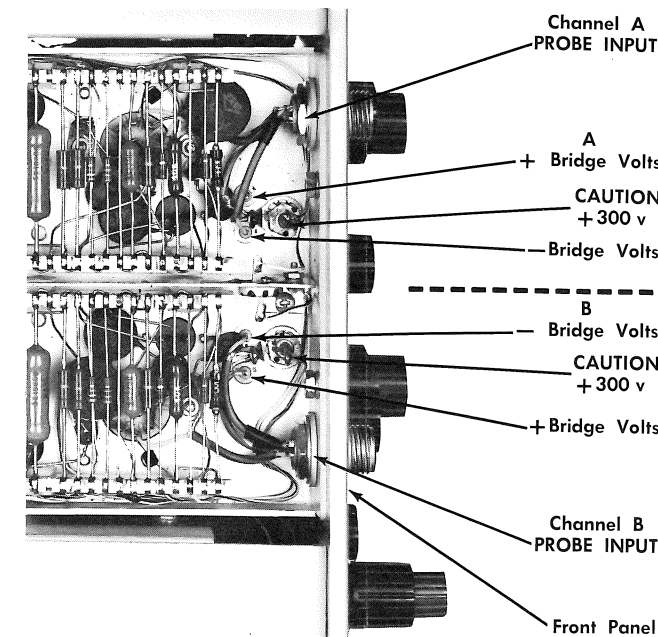

Fig. 5-6. Bridge-volts test points, located underneath 4 1/4 x 4 3/4 preamplifier bottom shield.
- c. Use the test oscilloscope and 10X probe, dc coupled, to measure the bridge volts at the four test points shown in Fig. 5-6. (Do not measure these voltages with the 20,000 ohm/volt meter.) Minimum voltage at each test point is 1.5 volts + or -. If any bridge-volts test point has less than 1.5 volts (+ or -), do the following: